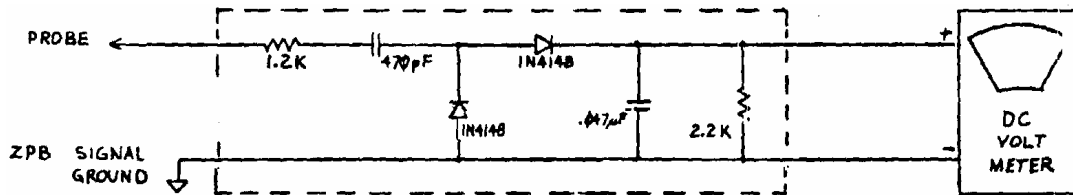

FIGURE 1C: A.C. SIGNAL DETECTOR
4. Construct the "probe" shown in figure 1C on a piece of cardboard or perf-board. This probe converts high frequency signals to DC signals. The voltage of the resulting DG signal will be proportional to the duty factor of the tested wave form.